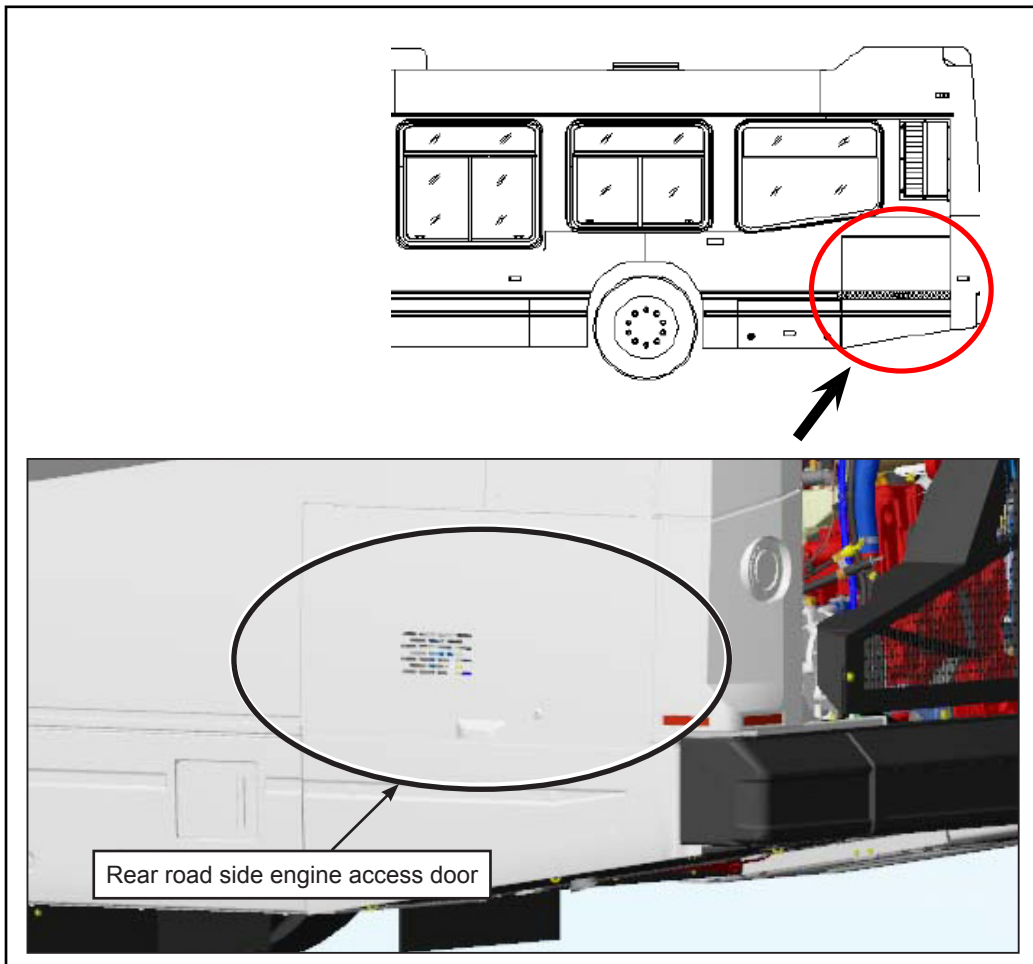

Figure 3 - Open the street side engine access panel
- 1.4. Open the street side rear engine access panel (can vary as per the configuration) (see Figure 3).